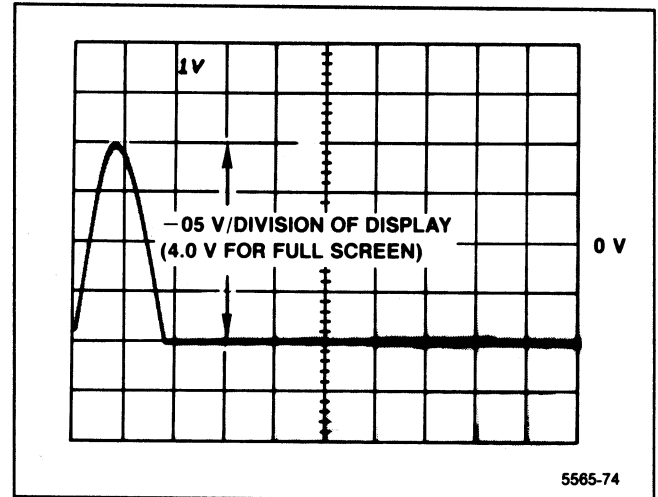

Figure 4-22. Test oscilloscope display of VERT output with a full screen display on the Spectrum Analyzer.
e. Check that the amplitude of the VERT OUTPUT signal is 4 V peak-to-peak ±0.2 V centered around 0 Vdc as displayed on the test oscilloscope. See Figure 4-22.